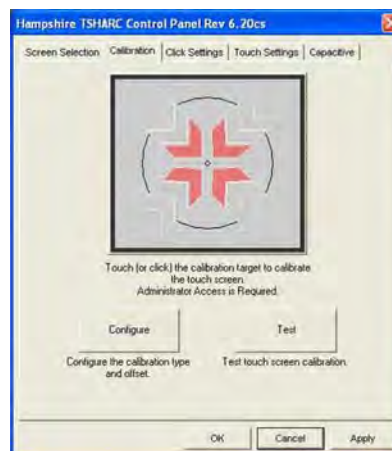

Figure 16-1 Sample Hampshire TSHARC Control Panel window
1. From the Windows toolbar select **Start > All Programs > Hampshire TSHARC Control Panel** to open the touch screen dialog box (Figure 16-1).